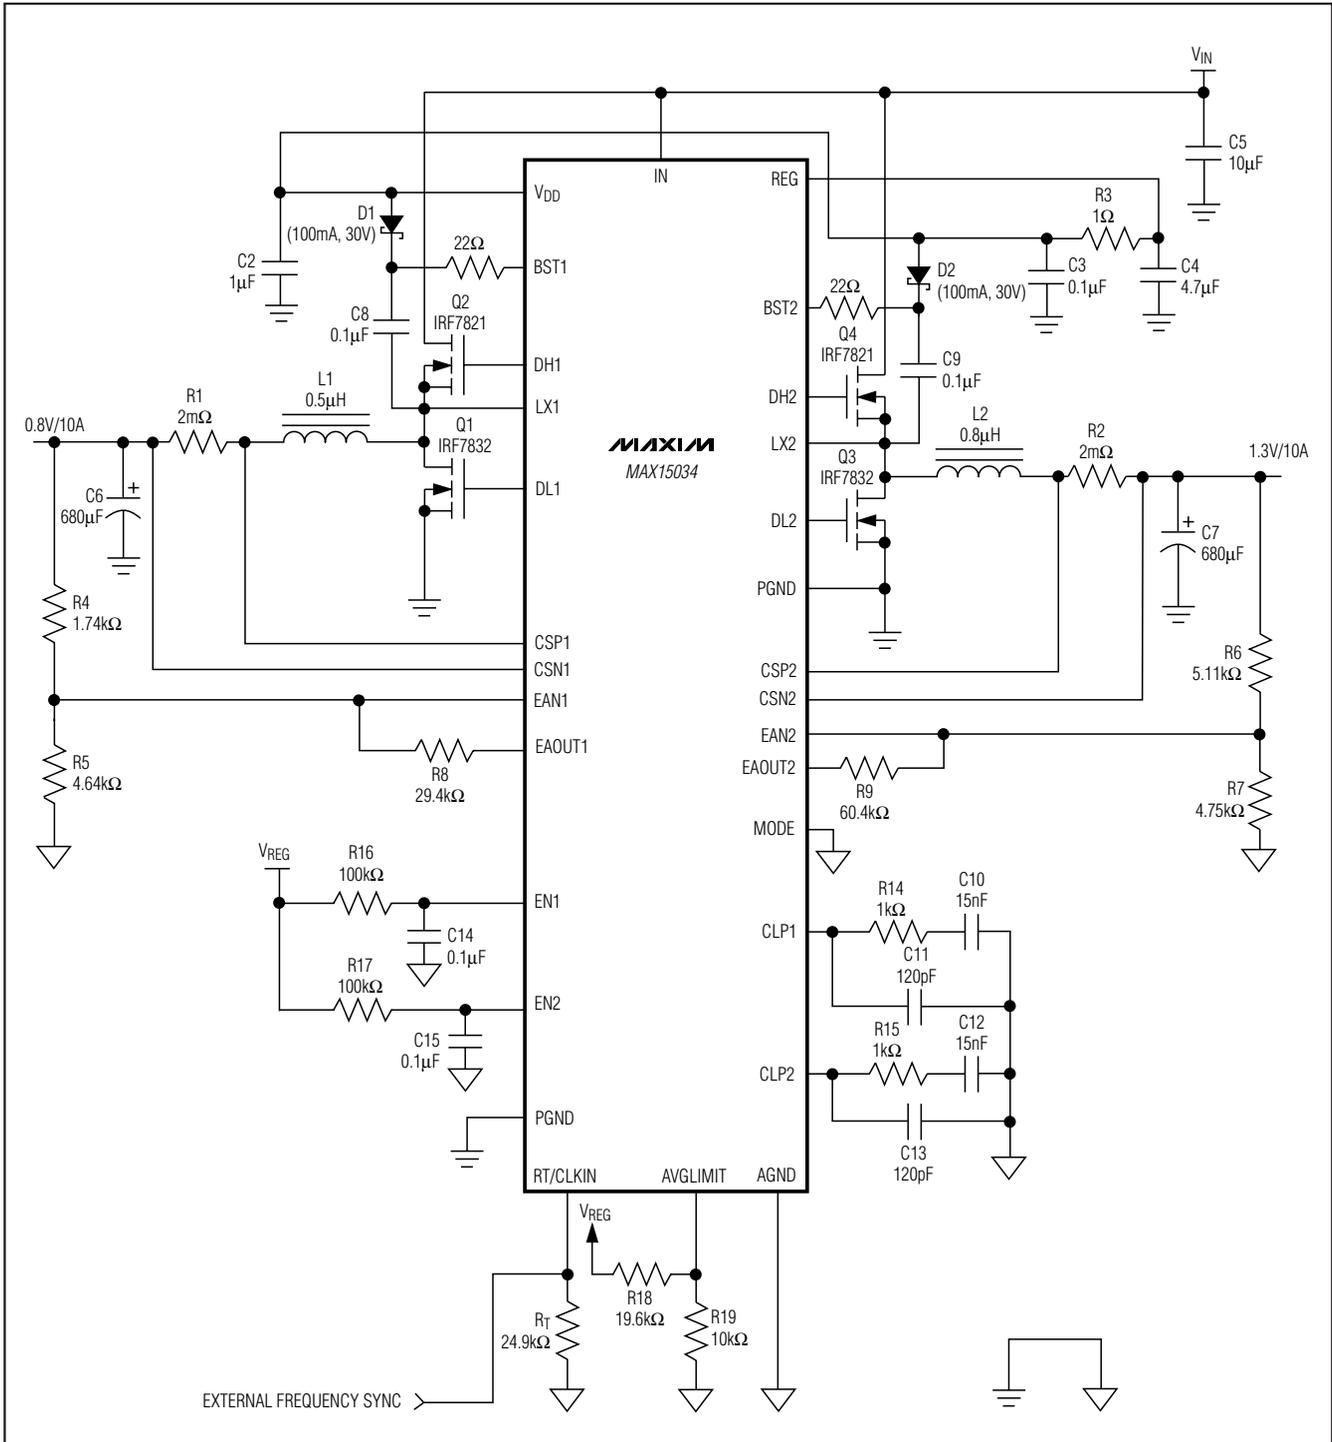
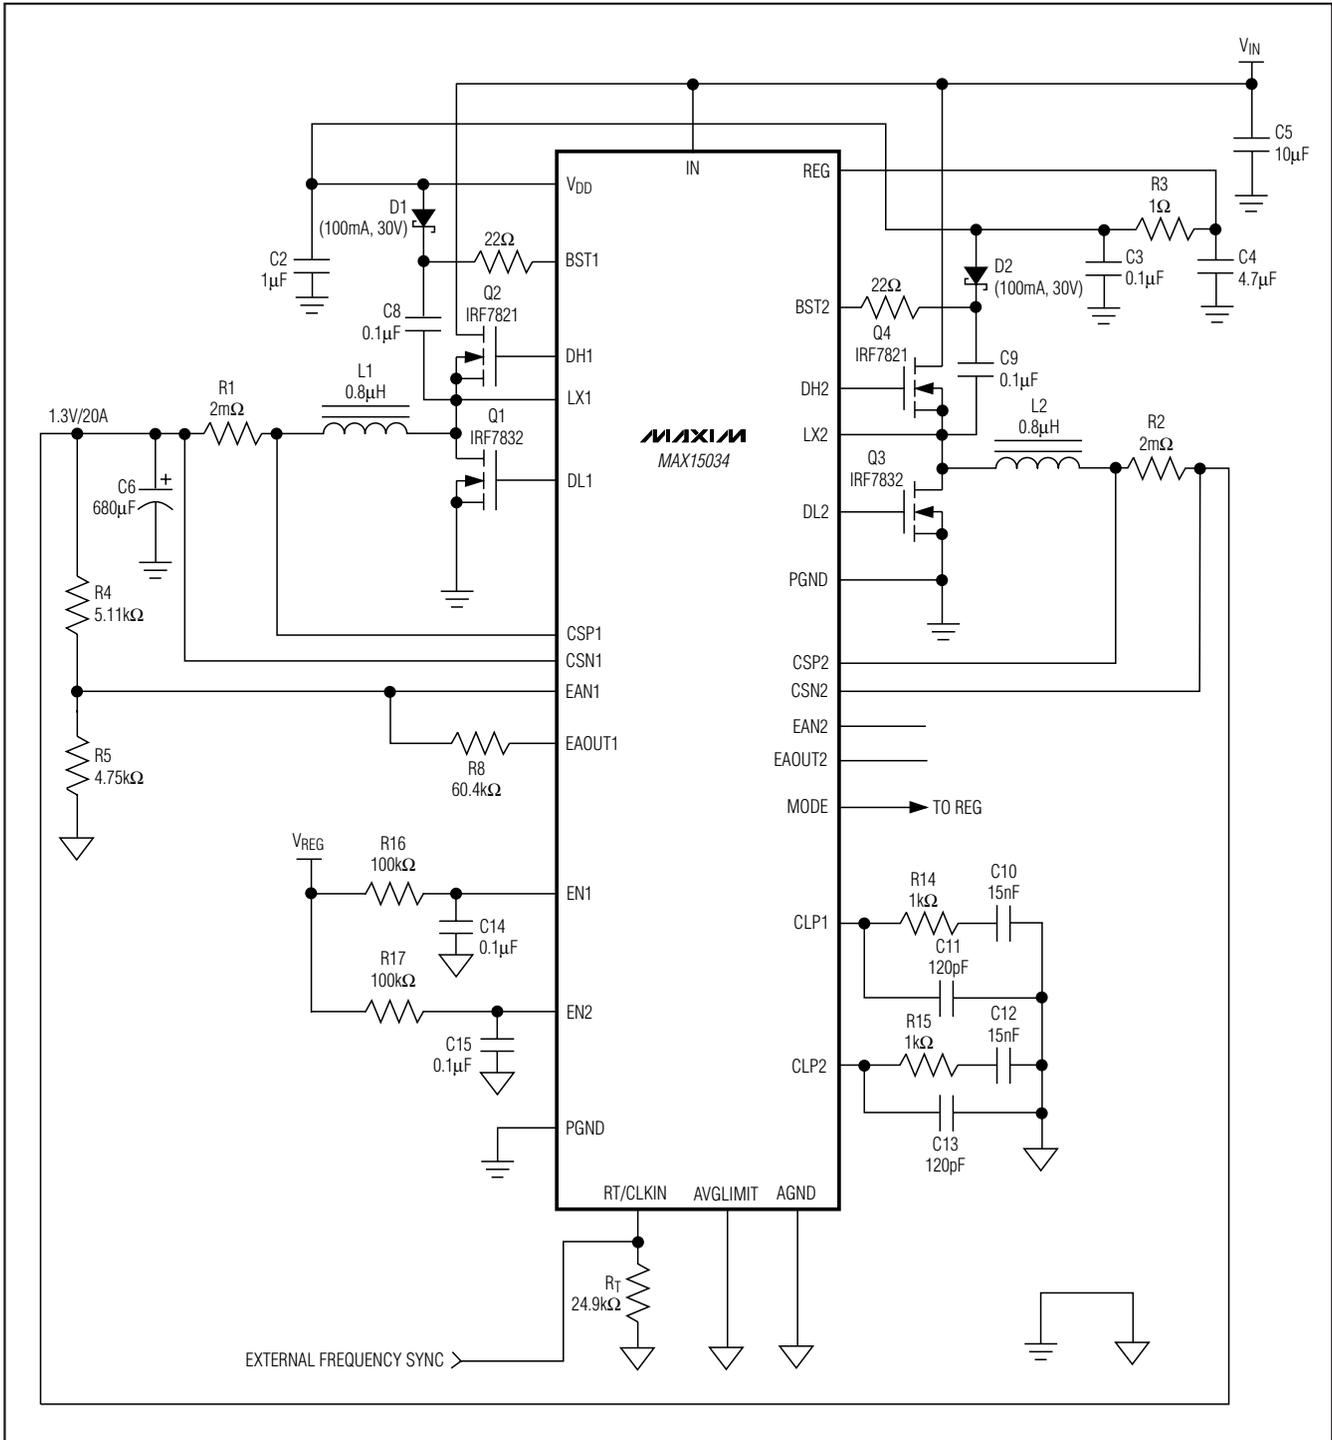

Figure 6. Dual-Output Buck Regulator
Figure 7. Dual-Phase, Single-Output Buck Regulator
where IIN is the quiescent supply current into IN (4mA, typ), QGQ1, QGQ2, QGQ3, QGQ4 are the total gate charges of MOSFETs Q1 through Q4 at VGS = 5V (see Figure 6), and fSW is the switching frequency of each individual phase.
BST1 and BST2 supply the power for the high-side MOSFET drivers for output 1 and output 2, respectively. Connect BST1 and BST2 to VDD through rectifier diodes D1 and D2 (see Figure 6). Connect a 0.1μF ceramic capacitor between BST\_ and LX\_.
Minimize the trace inductance from BST\_ and VDD to the rectifier diodes, D1 and D2, and from BST\_ and LX\_ to the boost capacitors, C8 and C9 (see Figure 6). This is accomplished by using short, wide trace lengths.
The compensation network at the current-error amplifiers (CLP1 and CLP2) provides an inherent soft-start of the output voltage. It includes (R14 and C10) in parallel with C11 at CLP1 and (R15 and C12) in parallel with C13 at CLP2 (see Figure 6). The voltage at the current-error amplifier output limits the maximum current available to charge the output capacitors. The capacitor at CLP\_ in conjunction with the finite output-drive current of the current-error amplifier yields a finite rise time for the output current and thus, the output voltage.
An internal oscillator generates the 180° out-of-phase clock signals required for both PWM modulators. The oscillator also generates the 2VP-P voltage ramps necessary for the PWM comparators. The oscillator frequency can be set from 200kHz to 2MHz by an external resistor (RT) connected from RT/CLKIN to AGND (see Figure 6). The equation below shows the relationship between RT and the switching frequency:
cycle is less than 50%, choose high-side MOSFETs (Q2 and Q4, Figure 6) with a moderate  $R_{DS(ON)}$  and a very low gate charge. Choose low-side MOSFETs (Q1 and Q3, Figure 6) with very low  $R_{DS(ON)}$  and moderate gate charge. The driver block also includes a logic circuit that provides an adaptive nonoverlap time (30ns typ) to prevent shoot-through currents during transition. Figure 7 shows the dual-phase, single-output buck regulator.
where  $I_{MAX}$  is the full load current of the regulator.  $V_{OUT}$  is the output voltage of the same regulator and  $C_{IN}$  is C5 in Figure 6. The ESR of the input capacitors wastes power from the input and heats up the capacitor. Reducing the ESR is important to maintain a high overall efficiency and in reducing the heating of the capacitors.
where  $I_{LOAD\_STEP}$  is the step in load current and  $t_{RESPONSE}$  is the response time of the controller. Controller response time depends on the control-loop bandwidth.  $C_{OUT}$  is C6 and C7 in Figure 6.
where  $\Delta V_{OUT}$  is the allowable drop in voltage from no load to full load.  $R_F$  is  $R_8$  and  $R_9$ ,  $R_1$  is  $R_4$  and  $R_6$ ,  $R_2$  is  $R_5$  and  $R_7$  in Figure 6.